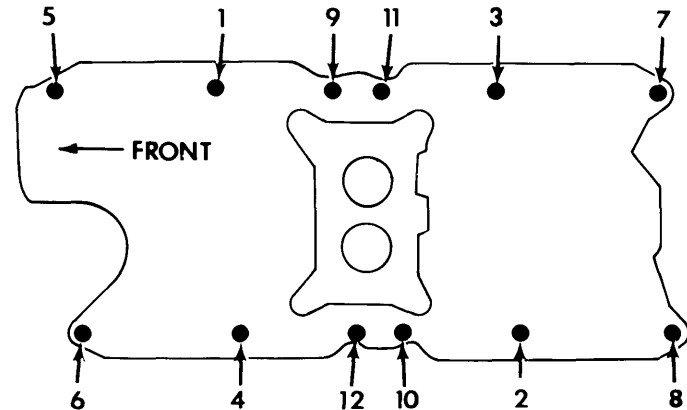

Fig. 1 Tightening Sequence for Intake Manifold
2) Lower manifold into position taking care not to misalign manifold gaskets. Install manifold bolts, tighten in two steps in sequence shown in *Fig. 1*. Reverse removal procedure to install remaining components. Warm engine to normal operating temperature, shut off engine, and retighten manifold bolts to specifications.